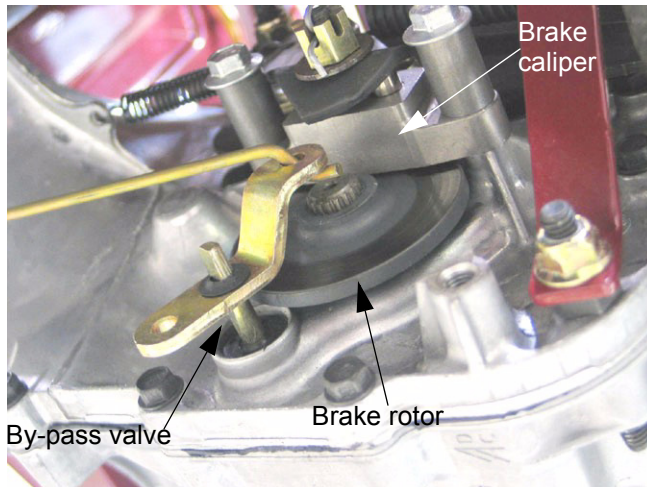

Figure 6.12
6.12. The by-pass valve and brake are visible beneath the right side frame channel. See Figure 6.12.